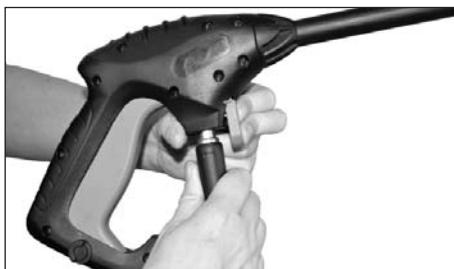

Figure 3 - Attach high pressure hose to gun
2. Attach high pressure hose to gun (see Figure 3).
5. Press Easy Connect button while inserting Quick Connect fitting. (see Figure 3 & 6)